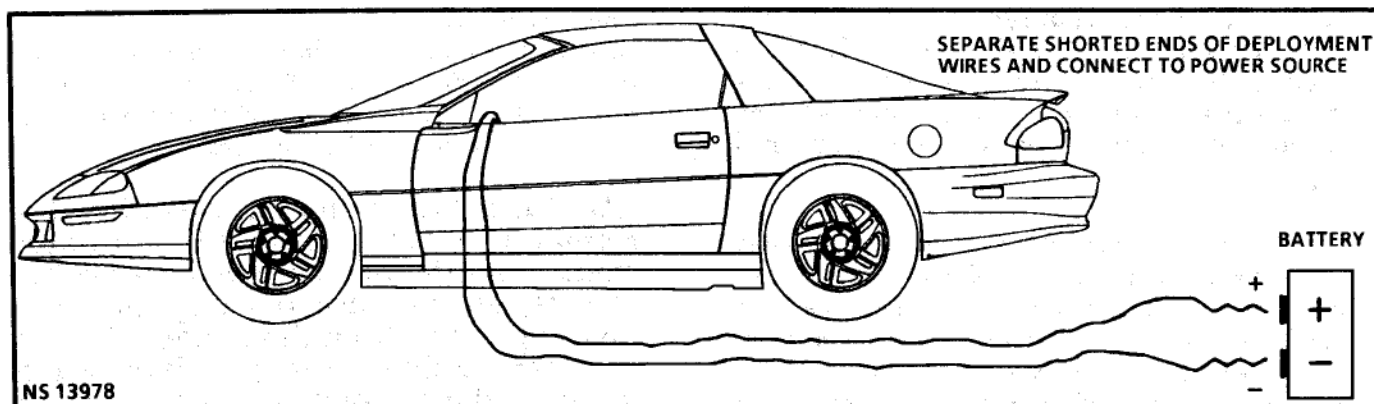

Figure 31 - Separate Shorted End of Deployment Harness and Connect to Power Source
27. Separate the two ends of the driver deployment harness wires (Figure 31).
28. Connect the driver deployment harness wires to a power source to immediately deploy the driver inflator module. Recommended application: 12 volts minimum, 2 amps minimum. A vehicle battery is suggested (Figure 31).